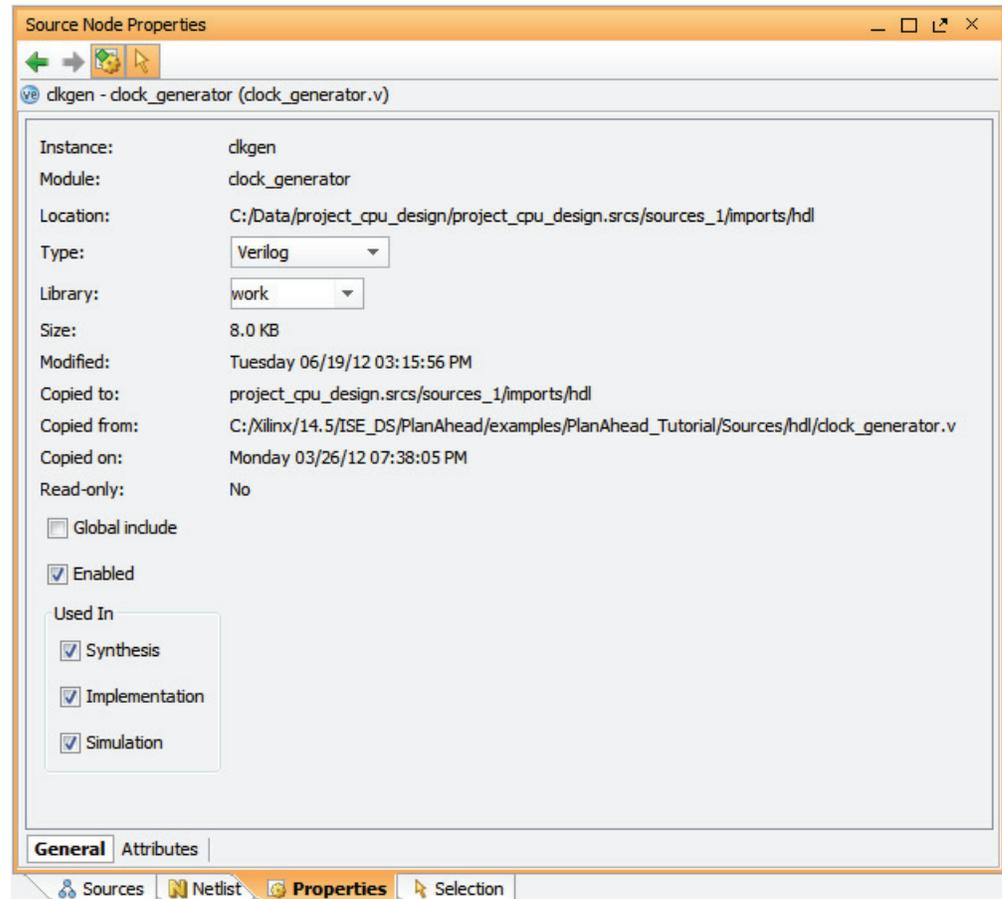

Figure 4-41: Viewing Modified Source File Properties
1. In the Sources view, select a source file and select the **Source File Properties** view. Figure 4-41, page 135 shows the Source File Properties view for a selected Verilog file.